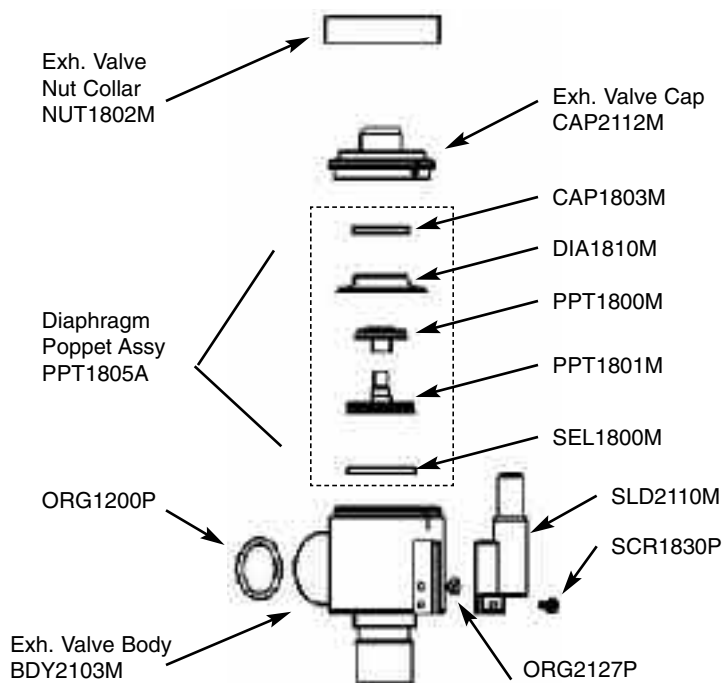

Figure 2-3 Diaphragm, Seal & O-Ring Replacement
- 5 Locate and replace O-ring (ORG1200P) inside the Exhalation Valve Body, see Figure 2-3.
- 4 Locate and replace O-ring (ORG1200P) inside the Exhalation Valve Body, see Figure 2-3.